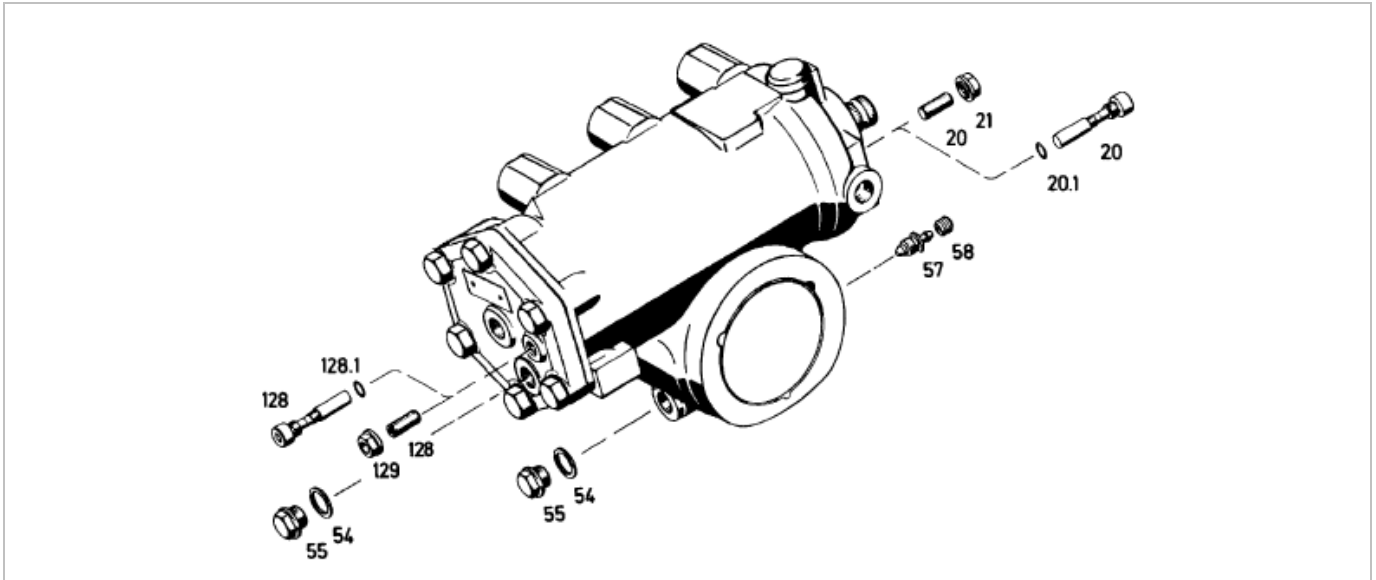

Fig. 6: Draining steering gear
- the screw plugs (55) from the cylinder cover or the housing
- the bleeder (57) (Fig. 6).